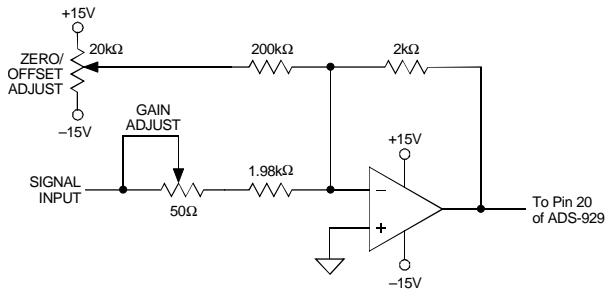

Figure 2. ADS-929 Calibration Circuit
Bypass all power supplies, as well as the REFERENCE OUTPUT (pin 21), to ground with 4.7µF tantalum capacitors in parallel with 0.1µF ceramic capacitors. Locate the bypass capacitors as close to the unit as possible. If the user-installed offset and gain adjusting circuit shown in Figure 2 is used, also locate it as close to the ADS-929 as possible.
- The ADS-929 achieves its specified accuracies without the need for external calibration. If required, the device's small initial offset and gain errors can be reduced to zero using the input circuit of Figure 2. When using this circuit, or any similar offset and gain-calibration hardware, make adjustments following warmup. To avoid interaction, always adjust offset before gain.
(Refer to Figures 2 and 3)
Any offset and/or gain calibration procedures should not be implemented until devices are fully warmed up. To avoid interaction, offset must be adjusted before gain. The ranges of adjustment for the circuit of Figure 2 are guaranteed to compensate for the ADS-929's initial accuracy errors and may not be able to compensate for additional system errors.
All fixed resistors in Figure 2 should be metal-film types, and multturn potentiometers should have TCR's of 100ppm/°C or less to minimize drift with temperature.